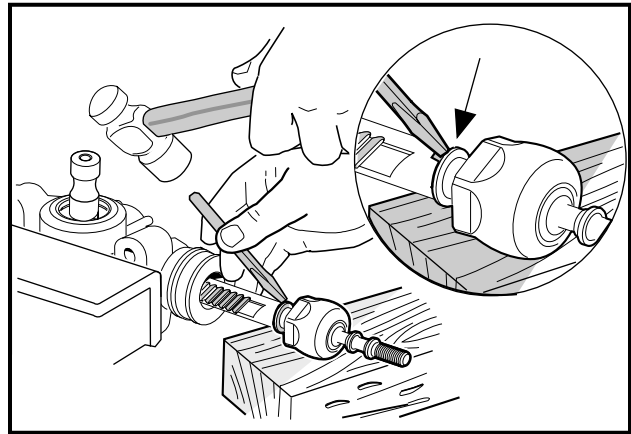

Figure 7-19 Remove Ball Joint
- 13.2. Tap the flange out of the notch in the rack (**Figure 7-19, Page 7-11**).